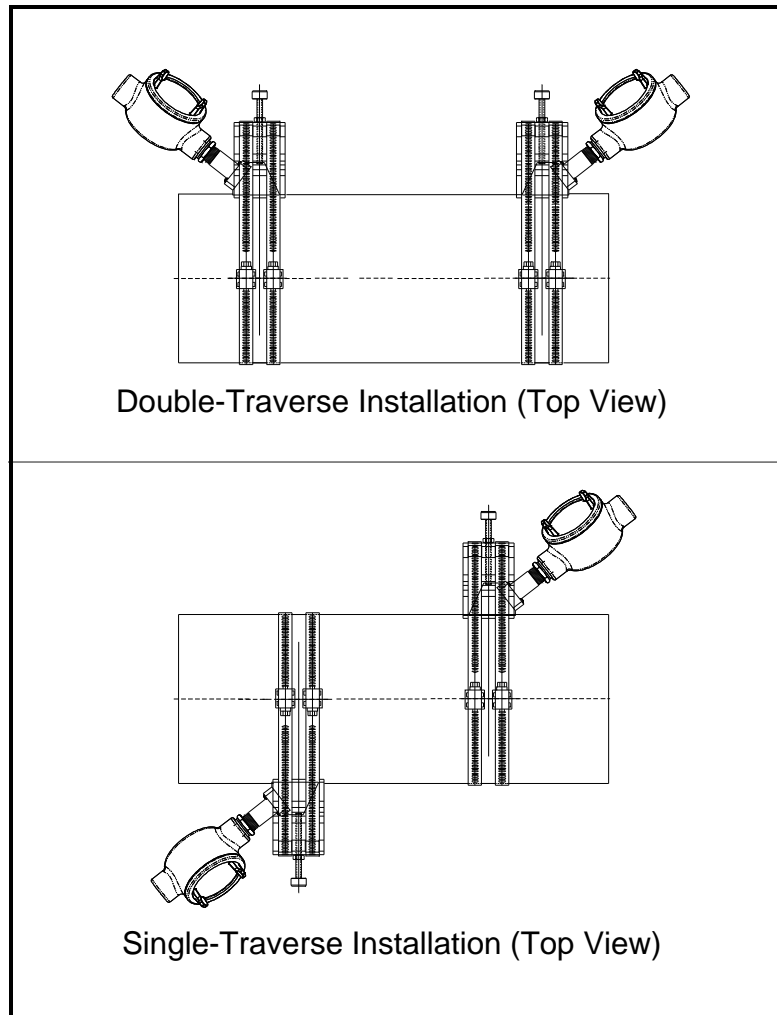

Figure 10: Completed GCF Installations with Transducers
7. Repeat Steps 1 to 6 to mount the other transducer in the remaining block. See Figure 10 on page 29 for completed installations.
Note: If you have mounted the transducers into GCF properly, the two transducer cable connectors will face away from each other as shown in Figure 10.